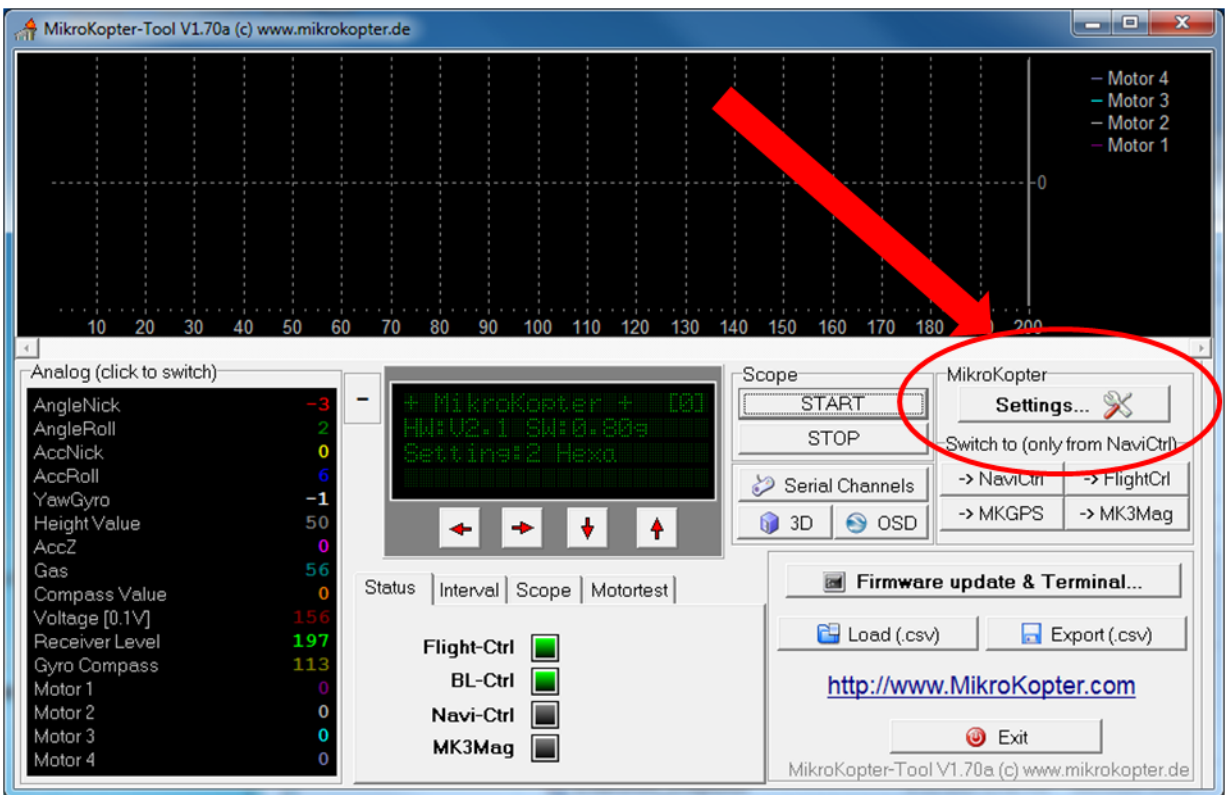

Figure 1: The “Settings...” Menu
- b. Open the "Settings..." menu as highlighted in Figure 1 below: